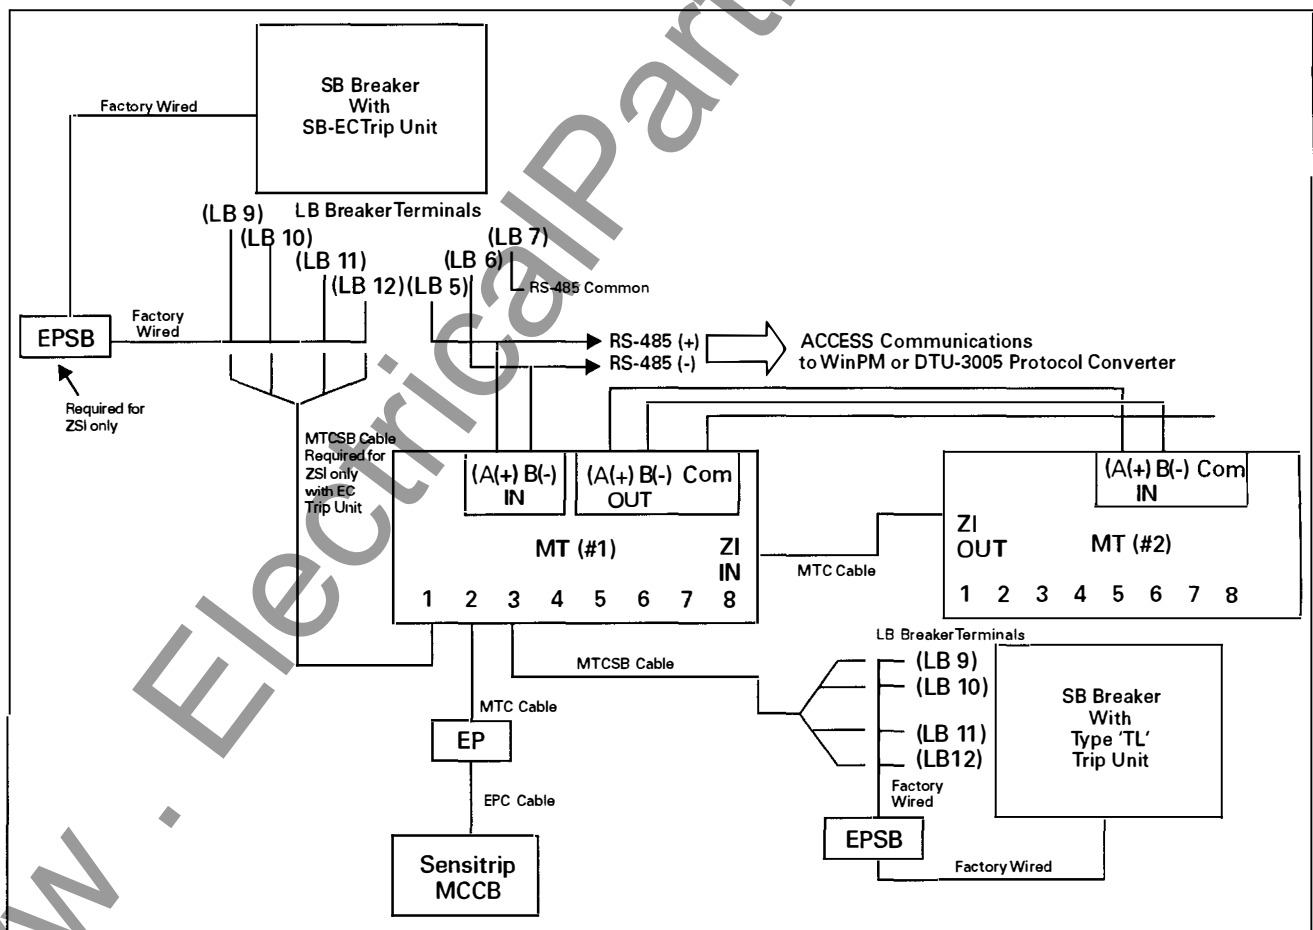

Figure 1 System Connection Diagram
4. Configure the **MTZ** to identify the zones for each breaker, per the site's coordination study and information and instruction sheet. Refer to figure 1 for system connections diagram.
4. If ZSI is not required, set the expansion plug's DIP switches to NO ZONE (0000), the **MTA**'s Device Configuration DIP switches to NO ZONE (00) and the Device Type **MTA**'s DIP switch to MCCB/ICCB (0001).
5. Connect RS-485 twisted pair communication cable to the **MTA**'s A(+) and B(-) terminals. Connect only one end of the cable's shield to the MT's GND terminal. Configure the ACCESS system network, per *Installing the ACCESS System* manual. An Isolated Multidrop Converter may be installed as an option. See figure 1 for system connection diagram.
located on the breakers secondary control terminals <LB5> to RS485(+), <LB6> to RS-485(-), and <LB7> to Shield/Common. Refer to figure 1 for system connection diagram.